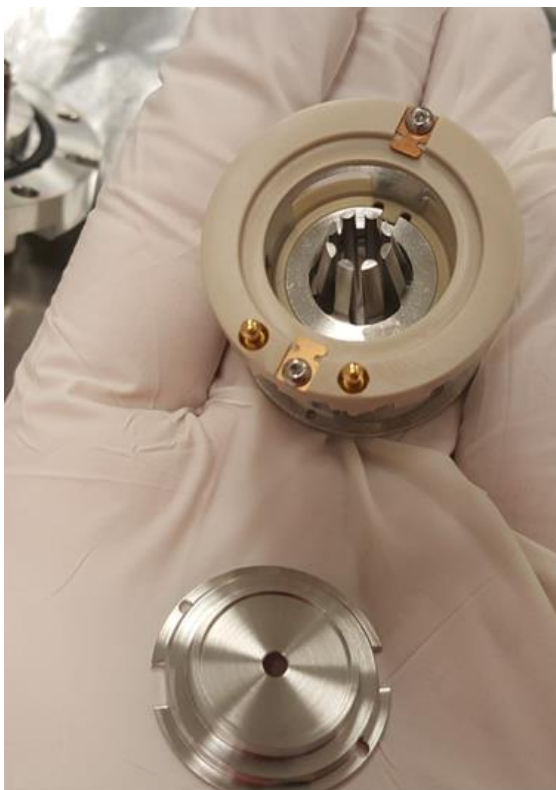

Figure 114: L0 separated from assembly
- 11) Turn L0 using the tool until the rectangular slots line up with the beryllium-copper fingers. Turn the Q00/L0 assembly upside down, and L0 should come off the assembly. See Figure 114: L0 separated from assembly.